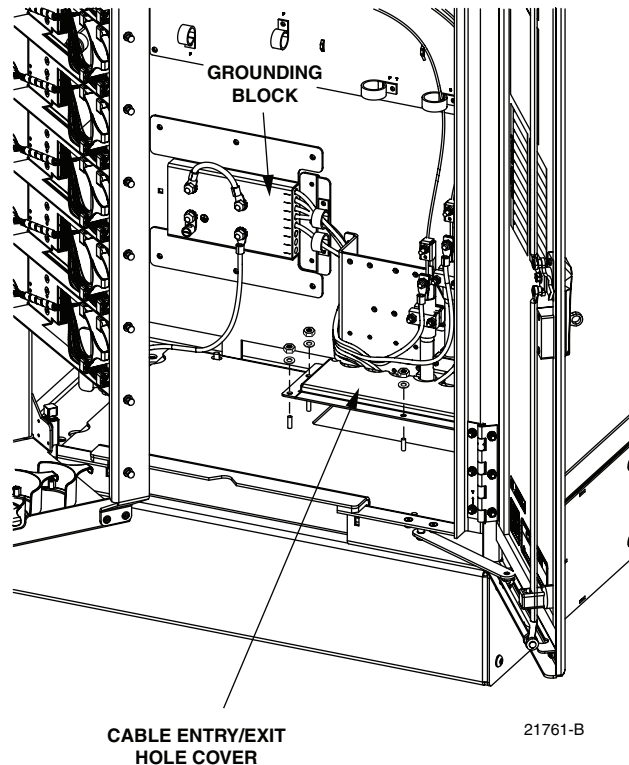

Figure 16. Cable Entry/Exit Hole Cover
1. Remove the nuts that secure the cable entry/exit hole cover to the bottom of the cabinet as shown in Figure 16. Save nuts for reuse.